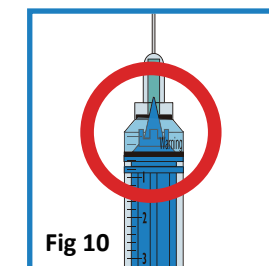

Fig 10
9. If the fiducial line of the piston does not cover with the zero graduation line on the barrel, the needle will not retract automatically (Fig 10).